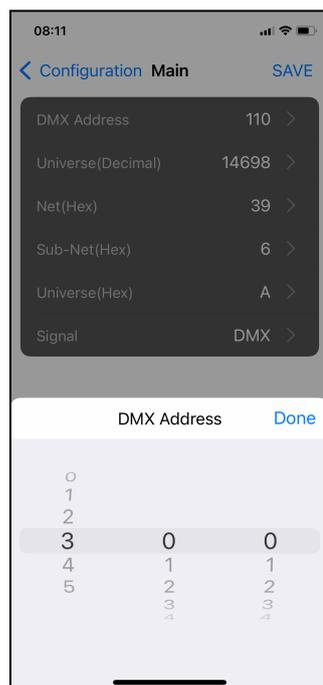

Figure 4
2) Change the device parameters such DMX address or User Mode or others (Figure 4, 5):